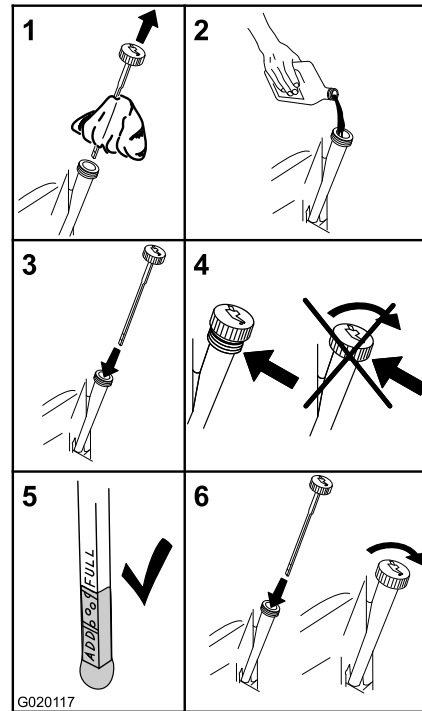

Figure 33
4. Slowly pour approximately 80% of the specified oil into the filler tube and slowly add the additional oil to bring it to the **Full** mark (Figure 33).